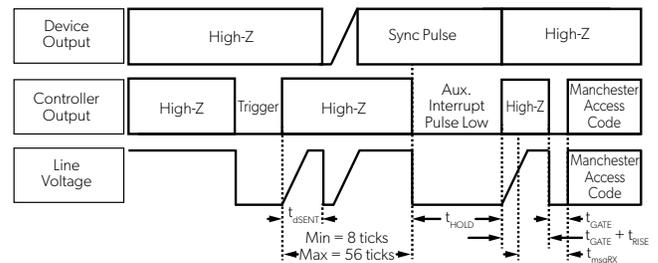

Figure 30: Entering Manchester using TSENT
3. If using a version of Shared SENT (OUTMSG_MODE = 3, 4, OR 5), a specific F_AUX pulse is required, followed by the Manchester entry code (Figure 30).
To initiate Manchester communication when the A33022 is configured with the TSENT output (OUTMSG_MODE = 2 or 6), the auxiliary interrupt pulse must be transmitted during the SENT message frame, requiring a trigger pulse to begin a SENT frame. The auxiliary interrupt pulse must begin between 8 and 56 ticks following the completion of the trigger pulse. The pulse must have a minimum width of t_{HOLD} , after which the pulse must be released for t_{GATE} plus the rise time to allow the line to return high, followed by a low period of t_{GATE} before sending the Manchester access code. If the first rising edge of the Manchester access code is not observed before t_{msgRX} , a timeout of the device occurs, Manchester initiation aborts, and the device returns to normal functionality. The Manchester Auxiliary command is shown in Figure 30.